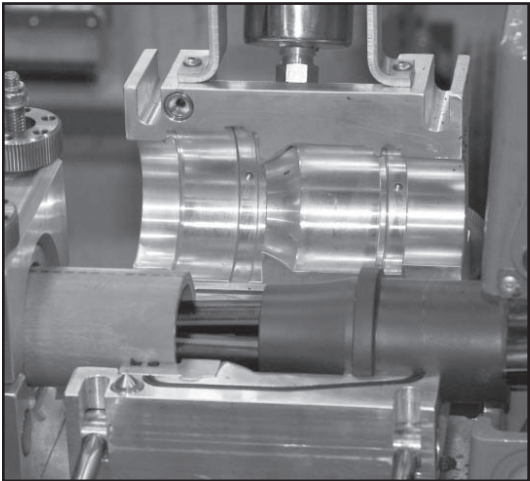

Figure 33
- H. Rotate Venturi for best duct lay in the tracks for the number of Micro Duct being installed. (Figure 33)